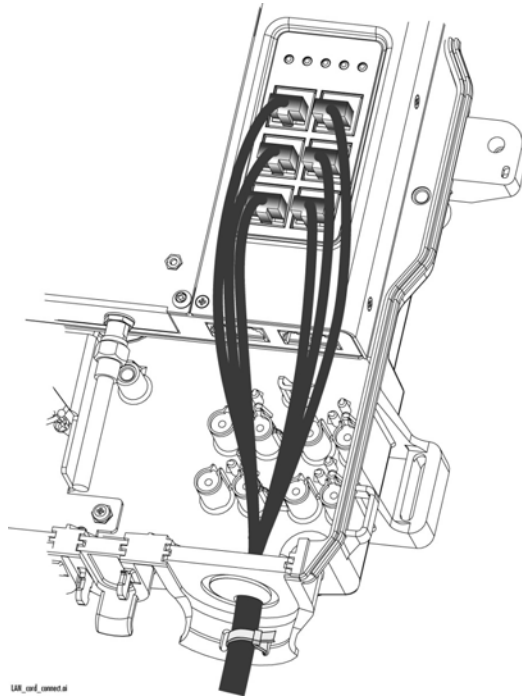

Figure 15. Connecting the LAN Cables (Phone lines omitted for clarity)
4. Secure the wires with a wire tie, as shown in Figure 15. (This step will include the telephone wires if you have installed the phone wires.)